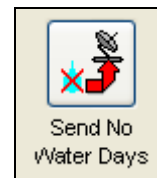

Figure 6.5.1
1. From the List of icons to the right of the “Speed Communications” screen select the **Send No Water Days** icon (Figure 6.5.1).